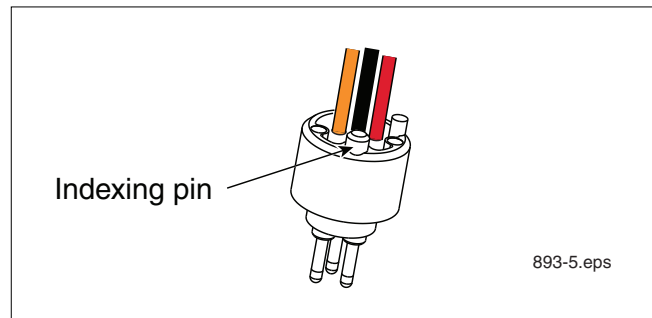

Figure 41. Male Connector's Indexing Pin
15. Notice the small indexing pin on the back of the male connector (see Figure 41).